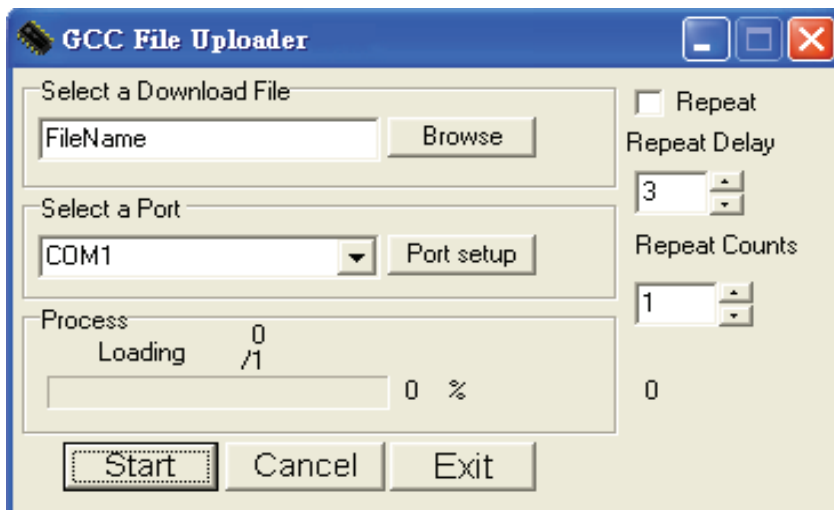

Figure 3-5
- ✓ Launch GCC File Uploader by double-click on the icon (Figure 3-5).